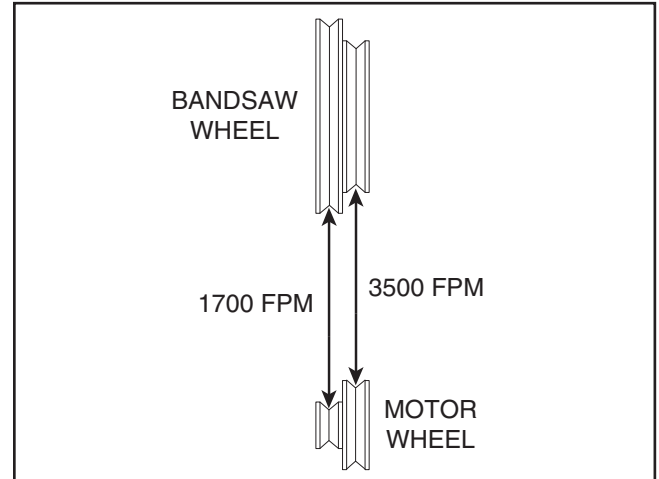

Figure 75. V-belt speeds.
3. Refer to **Figure 75** to locate the correct V-belt position for the desired blade speed and move the V-belt to the indicated pulleys.